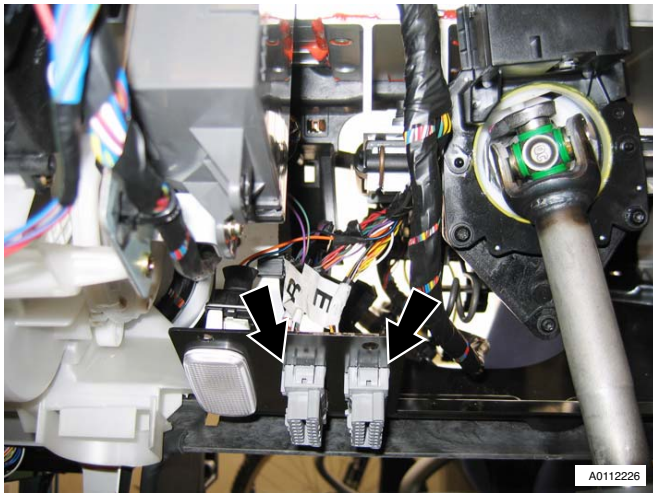

Figure 7
11. Unclip diagnostic plugs (x2) (see Figure 7).